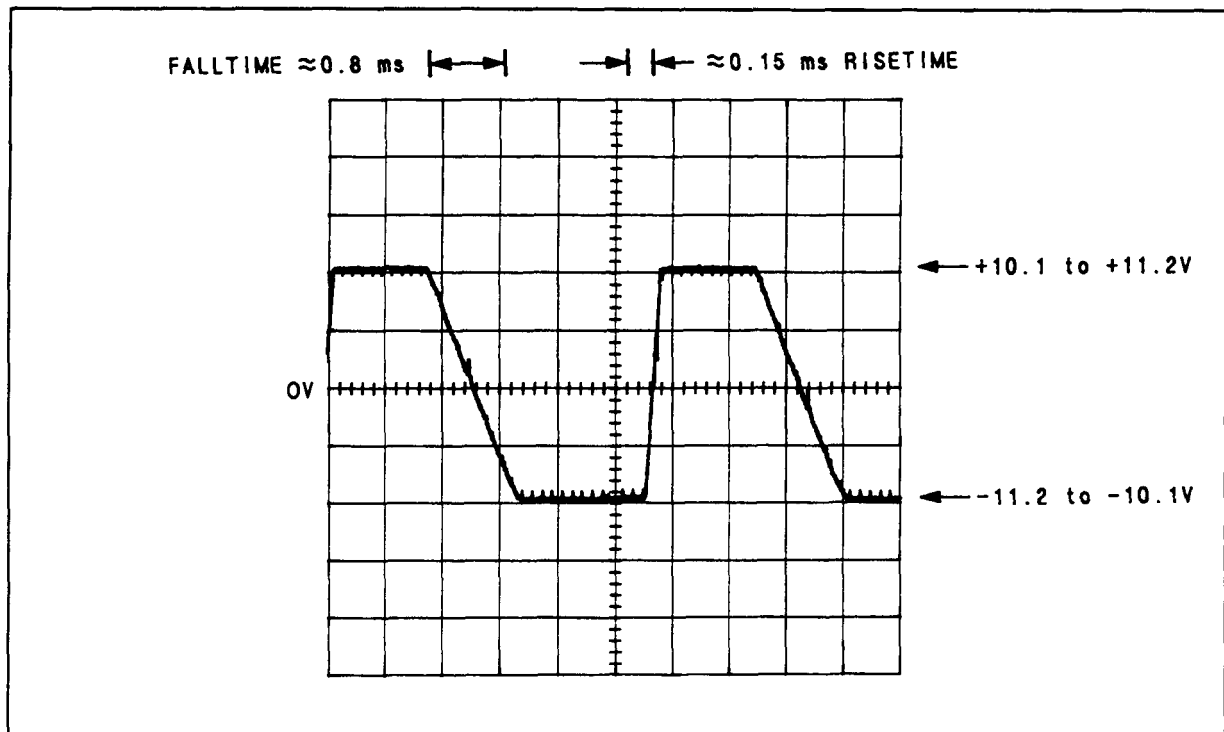

Figure 8F-31. Waveform for √5 Step 4
4. Press AUTOMATIC OPERATION. The waveform should be as shown in Figure 8F-31.